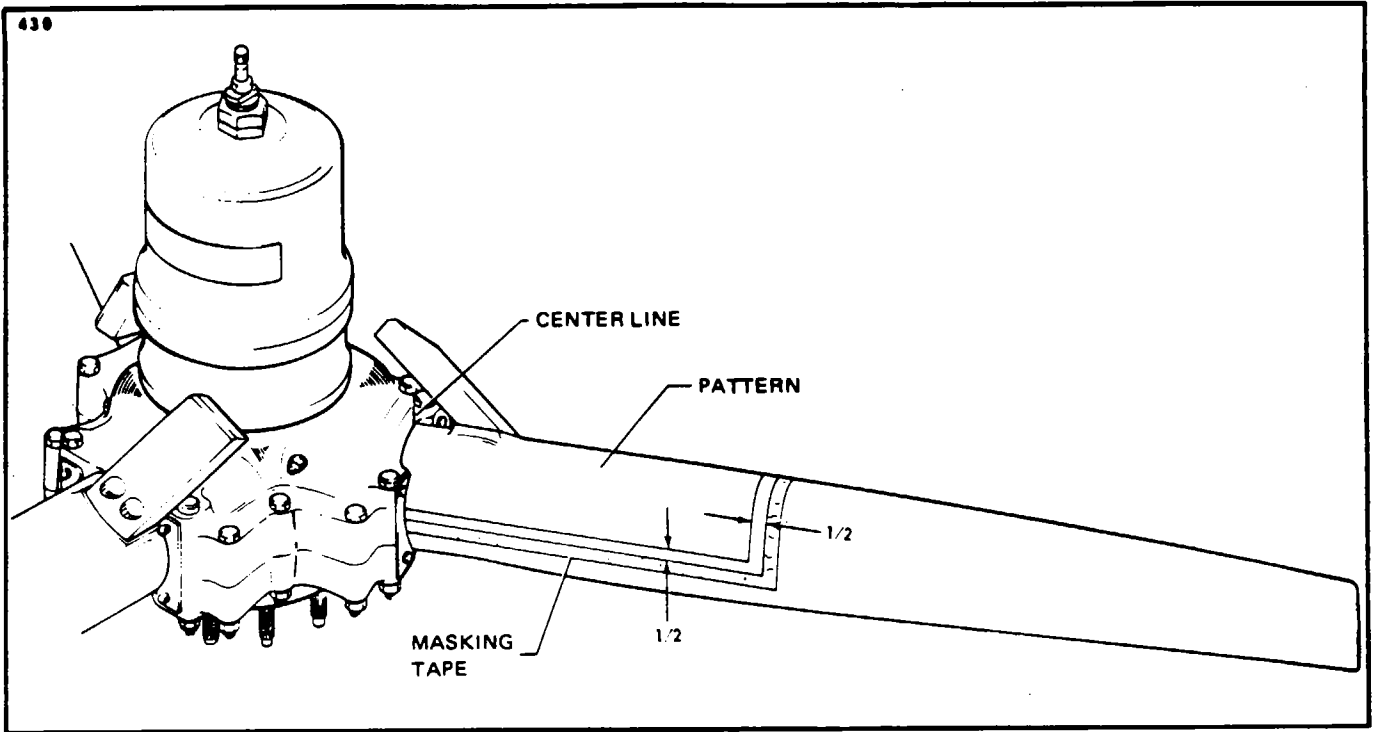

Figure 14-17. Installation of Deicer Boots
a. Mark and cut from masking tape a pattern the size of the propeller deicer including the first inch of the lead strap. (Refer to Figure 14-17.)
1. Position the deicer on the propeller leading edge, using centerlines starting from the hub. (Refer to Figure 14-17.) Make sure that the strap will fall in the position previously marked. Working towards the tip, tack the deicer centerline to the leading edge of the propeller blade. Use tackifying solvent as necessary. If the deicer is allowed to get off course, pull up with a quick motion and remove deicer. Recement per paragraph 14-48, c and d if necessary before proceeding. Roll firmly along the centerline with a rubber roller, as shown in Figure 14-17.